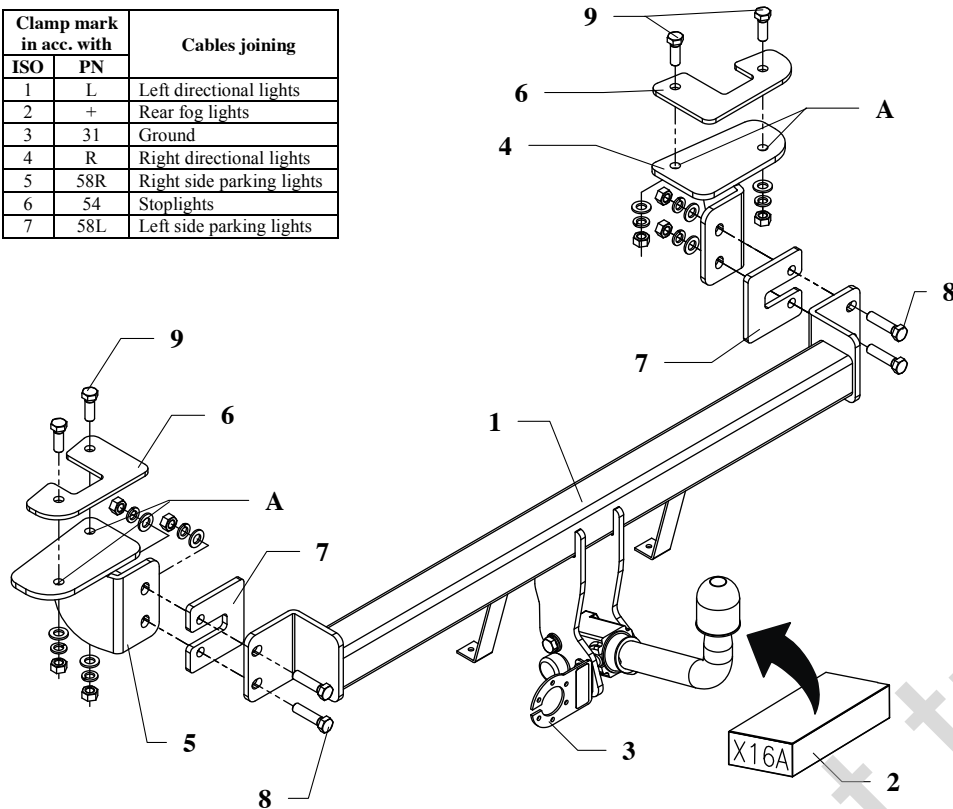
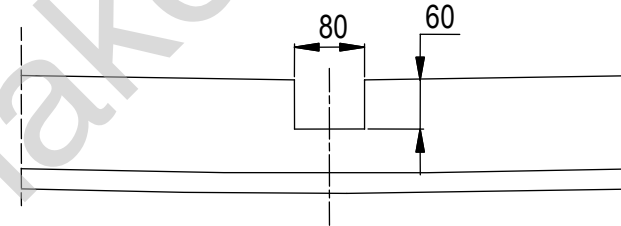

Fig. 1
Fig. 2
3. According to fig. 1 fix loosely brackets (pos. 4 and 5), use fish-plates (pos. 6).
4. To rear side of car fix the main bar of the towing hitch (pos. 1) using fish-plates (pos. 7). Fish-plates (pos. 7) should be placed between rear side of car and main bar of towing hitch.
5. Install the bumper (without filling) after its cutting – see fig. 2.